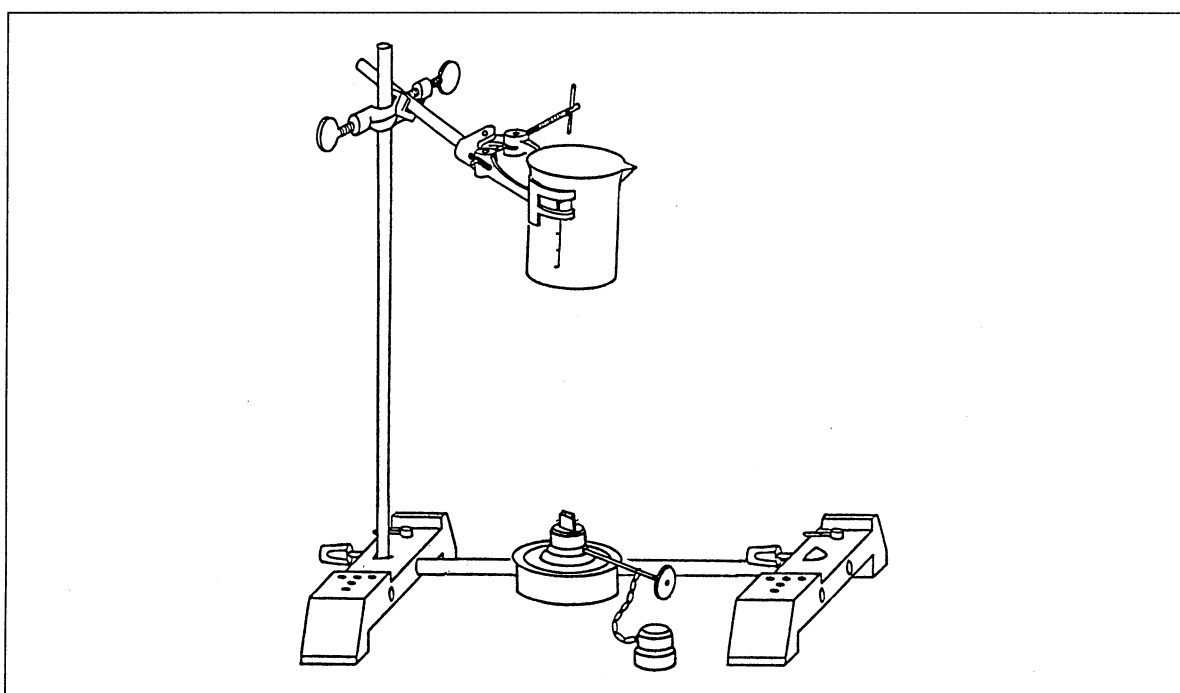

Fig. 1 Experimental setup for investigating heat transfer in liquids
1. Set up the stand as shown in fig. 1.